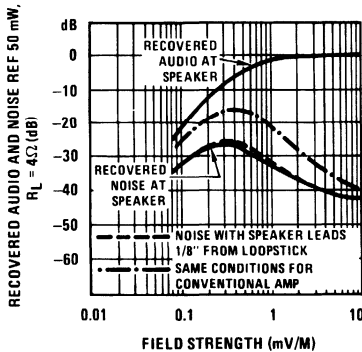

FIGURE 3. Improved AM Sensitivity Over Conventional Design
*Figure 3* shows a plot of recovered audio as a function of field strength in  $\mu\text{V}/\text{M}$ . The receiver section in this example is an LM3820. The power amplifier is located about two inches from the loopstick antenna. Speaker leads run parallel to the loopstick and are 1/8 inch from it. Referenced to a 20 dB S/N ratio, the improvement in noise performance over conventional designs is about 10 dB. This corresponds to an increase in usable sensitivity of about 8.5 dB.